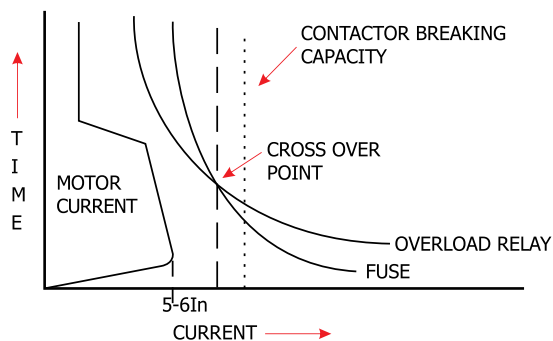

Fig. 3b
To understand various considerations for proper co-ordination, time-current characteristics of thermal overload relay, H.R.C. fuse, MCCB with only instantaneous release and MPCB are superimposed on motor starting characteristics in Fig. 3b, 4b and 5b. Intersection of characteristics of thermal overload relay and Fuse / MCCB / MPCB is termed as 'cross-over point' and corresponding current as 'cross-over current' I_{co} .
- › Thermal overload relay of appropriate 'Trip Class' is selected. Time current characteristics of the relay should remain above motor starting characteristics as shown in Fig. 3b and 4b